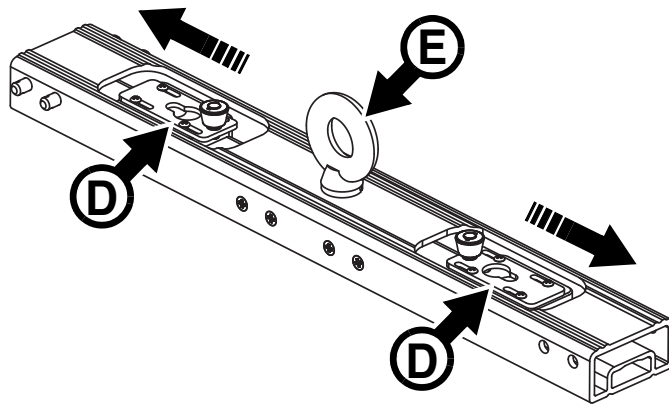

Figure 11: Opening locking plates in Single Header
3. See Figure 11. On the header, slide the locking plates **D** away from the suspension eye **E**.